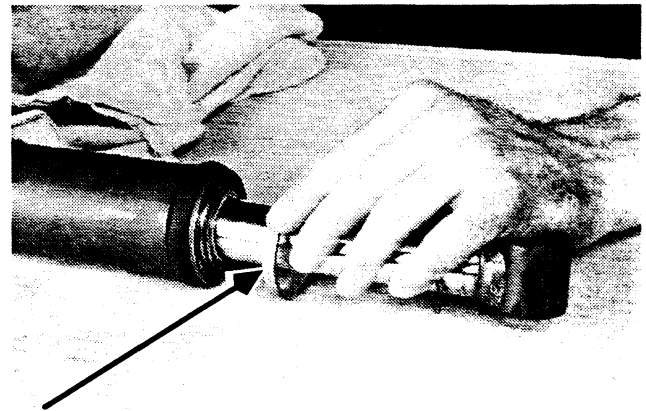

Figure 6-100: Removing the Spacer
5. Remove the spacer. See Figure 6-100.